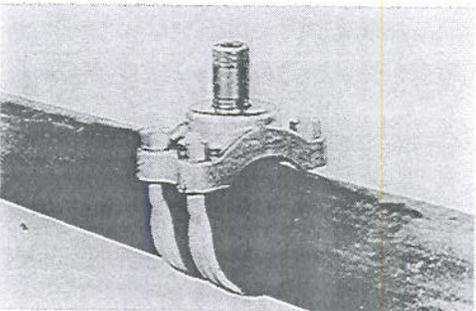

FIGURE 36
- 3b. For nipples having threaded inlet. Attach Service Clamp at the desired position. Apply non-hardening pipe thread "dope" to the inlet thread of the nipple and screw it into the body of the Service Clamp. **Figure 36.** NOTE: When using a Save-A-Valve Drilling Nipple having a threaded inlet, it may be necessary to reduce the working pressure and temperature to that of the clamp or fitting to which the nipple is attached.